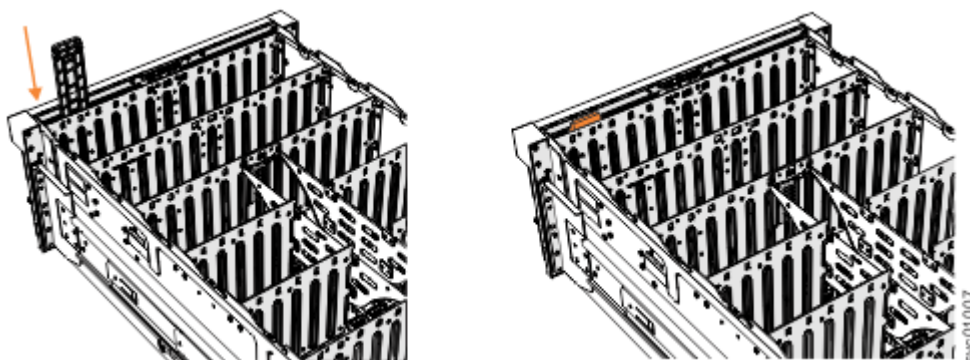

Figure 173. Installing the display panel assembly
6. Carefully align the display panel assembly in the slot at the front of the expansion enclosure, as shown in Figure 173 on page 204.